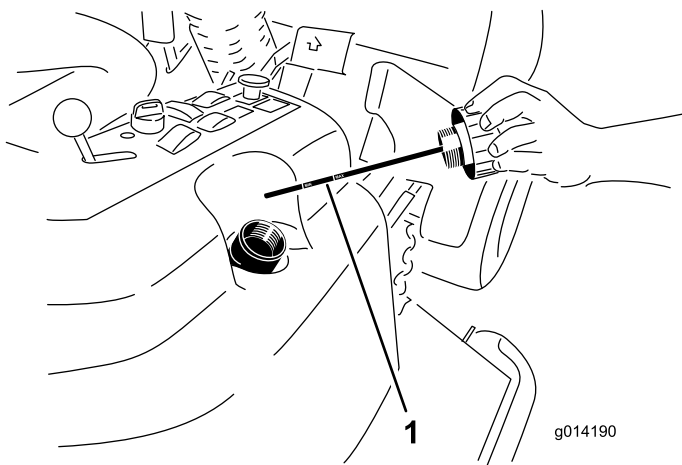

Figure 53
- Remove the hydraulic fill cap (Figure 53) from filler neck.
- Remove the dipstick and wipe it with a clean rag (Figure 53).
- Screw the dipstick all the way into the filler neck; then remove it and check level of fluid (Figure 53).